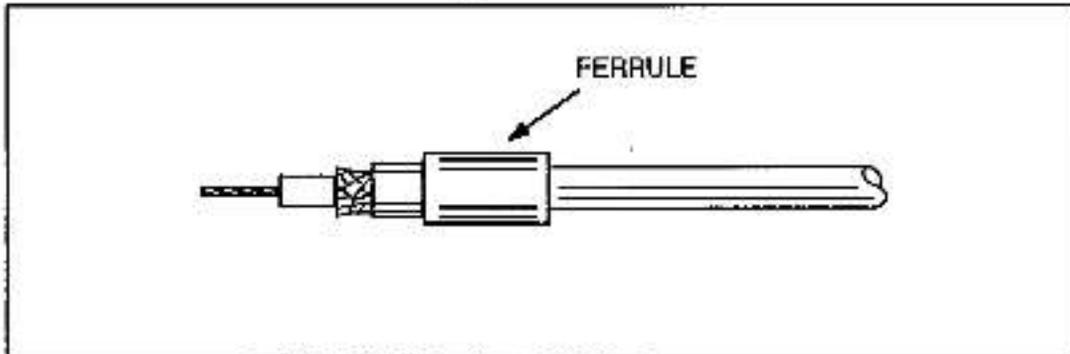

Figure 3.16 - Slide Ferrule onto RG-11/U Cable
- Step 1. After the cables have been installed in the conduit or cable trays, slide the ferrule onto the coax cable as shown in figure 3.16.